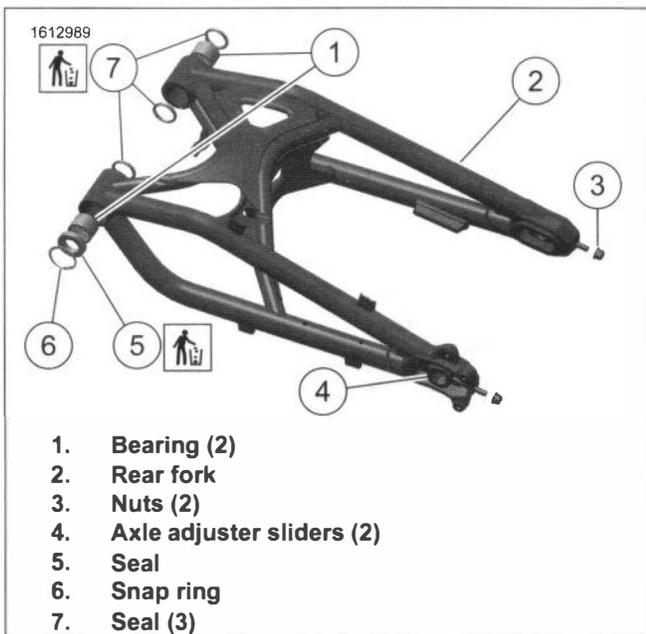

Figure 3-67. Rear Fork Assembly
1. See Figure 3-67. Remove right side components.
- a. Discard seals (7).
- c. If necessary, remove bearing (1) using a suitable press.
- a. Discard seal (7).
- b. Remove snap ring (6) and seal (5).
- d. If necessary, remove the nuts (3) and axle adjuster sliders (4).
2. See Figure 3-67. Install right side components.
- a. Install bearings (1) to previously recorded depth using a suitable press.
- b. Install **new** seals (7).
- a. Install bearing (1) to previously recorded depth using a suitable press.
- b. Install seal (5) until lightly contacts bearing (1).
- c. Install snap ring (6).
- d. Install **new** seal (7).
4. If necessary, axle adjuster sliders (4) and nuts (3).